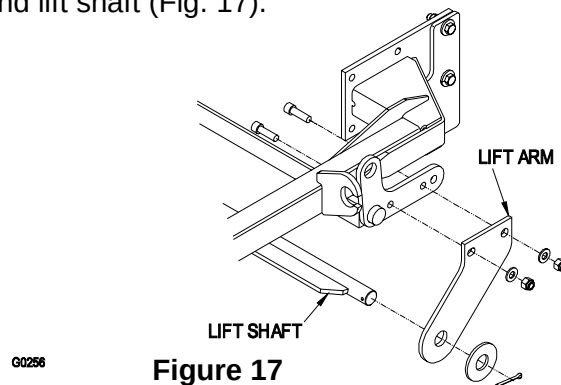

Figure 17
5. Remove the lift arms and lift shaft (Fig. 17).